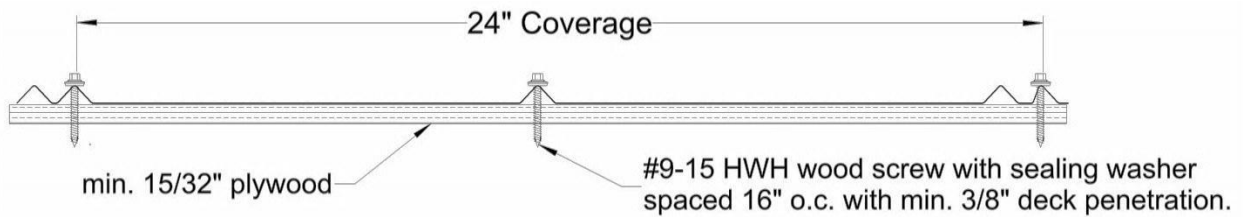
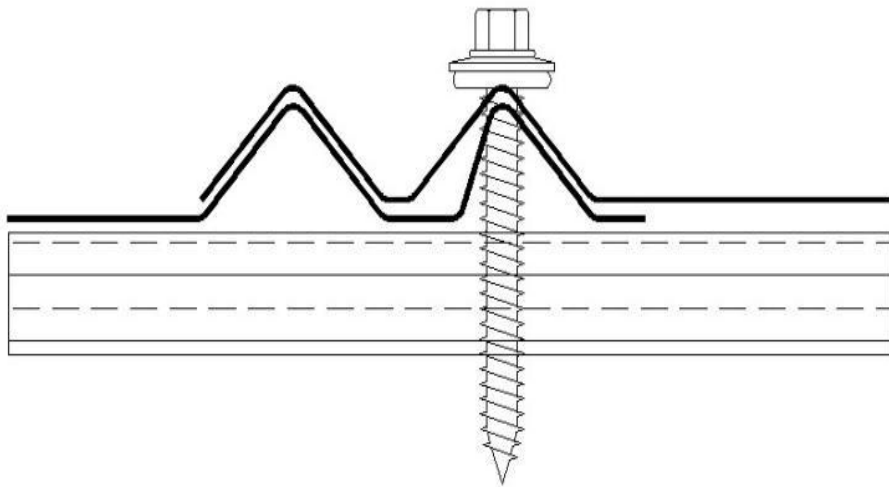

Figure 1: 5V Crimp Panel Fastener Pattern for System 1
Figure 3: 5V Crimp Panel Lap Detail
**Attachment of Panels to Wood Deck:** 5V Crimp panels are fastened to the roof deck with No. 9-15 x  $1\frac{1}{2}$ " inch long HWH wood screws with  $\frac{1}{2}$ " diameter sealing washer. The fasteners are installed through the panel rib at the spacing specified in Table 1. Refer to Figures 1 and 2 for panel fastener pattern. Refer to Figure 3 for panel lap detail.